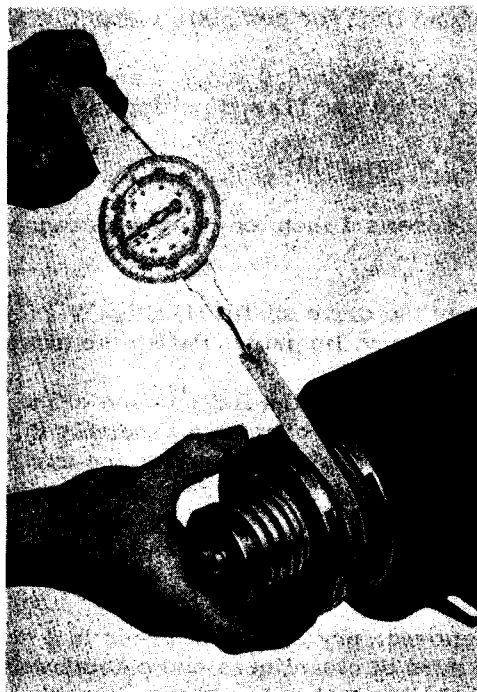

FIG. 6 CLUTCH PRELIMINARY ADJUSTMENT WITH SPRING SCALE
- Fig. 6. Clutch Preliminary Adjustment with Spring Scale.
9.5 Clutch Preliminary Adjustment -- A preliminary adjustment should be made before reinstalling the flat belt. The adjustment may be made using 1/2 inch wide masking tape and a spring scale (furnished) as shown in Fig. 6. Wrap the tape approximately one and one half times counterclockwise around the clutch pulley without contacting the pressure plates on either side. Double back the free end of the tape and pierce it with the hook on the 72 oz. spring scale. Grasp the pressure plate, fan disc assembly (25) and rotate it quickly clockwise while holding the spring scale so that the tape is taut. The scale should indicate a load of 60 oz. due to frictional force as the clutch slips. To adjust the clutch tension, loosen the spring adjuster lock screw (1) and rotate the spring adjusting screw (2) clockwise to increase tension and counterclockwise to decrease tension.